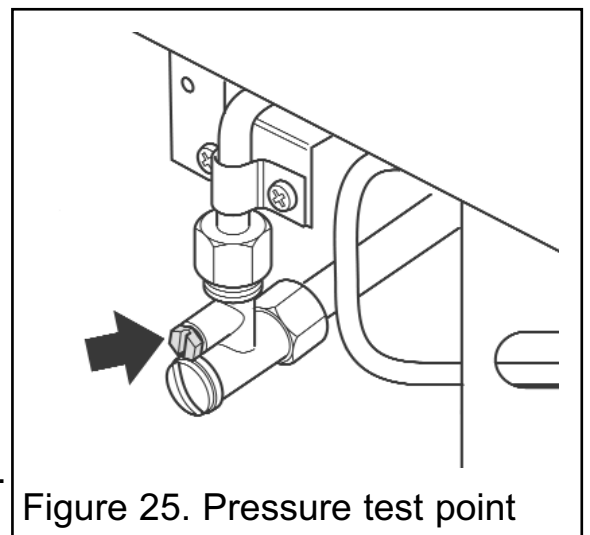

Figure 25. Pressure test point
1. Ensuring that the fire is off, check the inlet pressure by fitting a pressure gauge at the test point. The test point is on the inlet 'T' connector (See figure 25). Check the pressure with the appliance alight and set at maximum output.